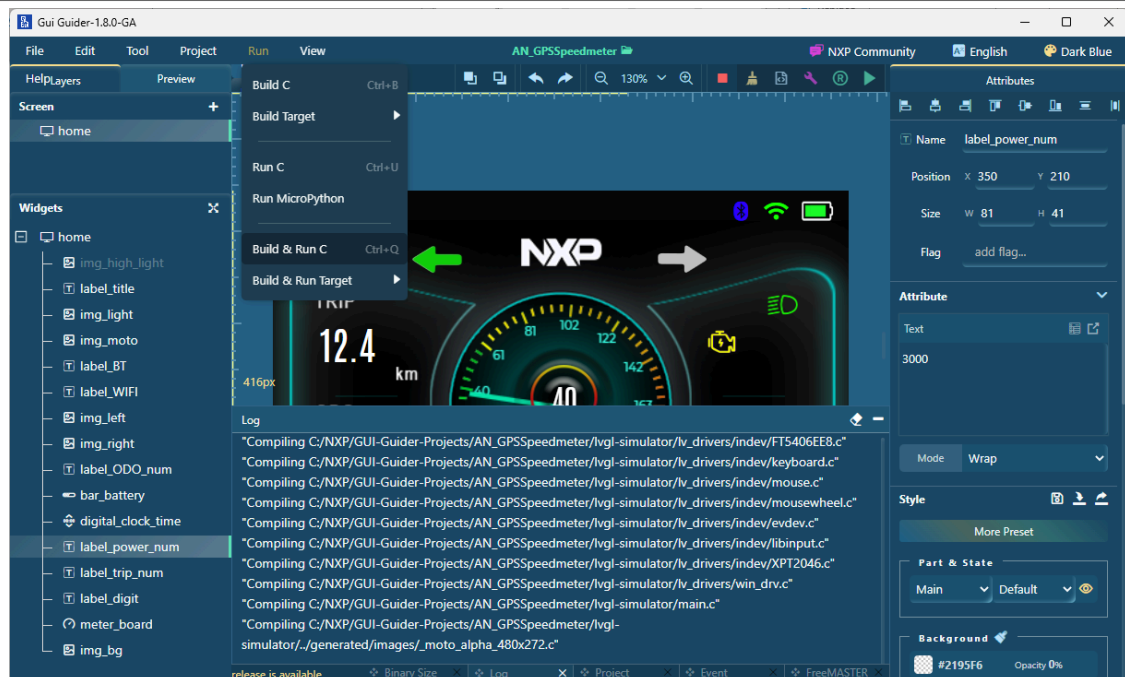

Figure 7. DigitalCluster UI "build C"
5. Figure 7 shows the digital cluster UI. Link GPS speed data with widgets "label\_digit" and "meter\_board". User can delete some widgets from the displayer, such as "img\_left", "img\_right", "label\_ODO\_num", "label\_power\_num", and so on.